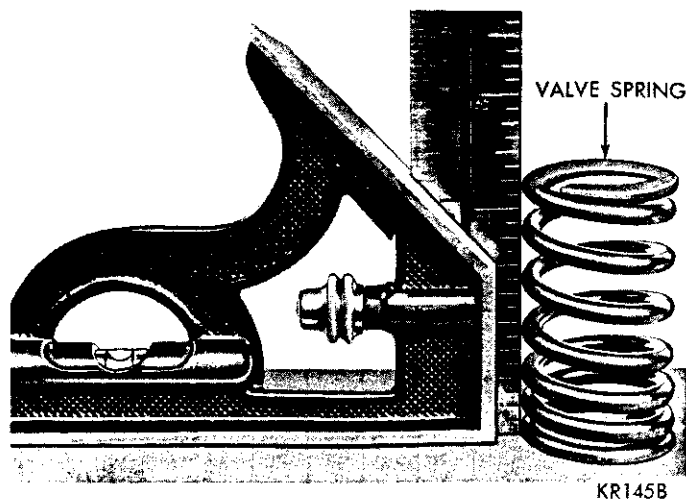

Fig. 16—Checking Valve Spring Squareness
(2) Inspect each valve spring for squareness with a steel square and surface plate, test springs from both ends (Fig. 16).